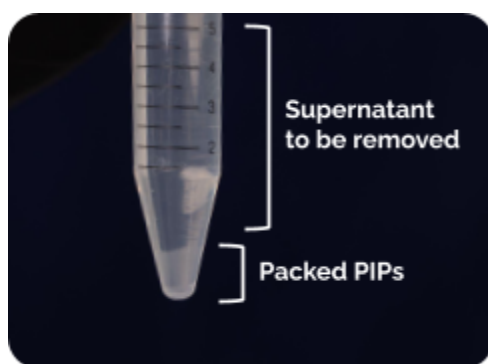

Figure 9. Packed PIPs after centrifuging
- Gently mix each tube by tapping the bottom to disperse the pellet and invert 10 times. Centrifuge the tubes for 2 minutes at 750 x g (use ~70-80% of the maximum braking speed) on a centrifuge with a swinging bucket rotor (e.g. ST40) to pack the PIPs (Figure 9).